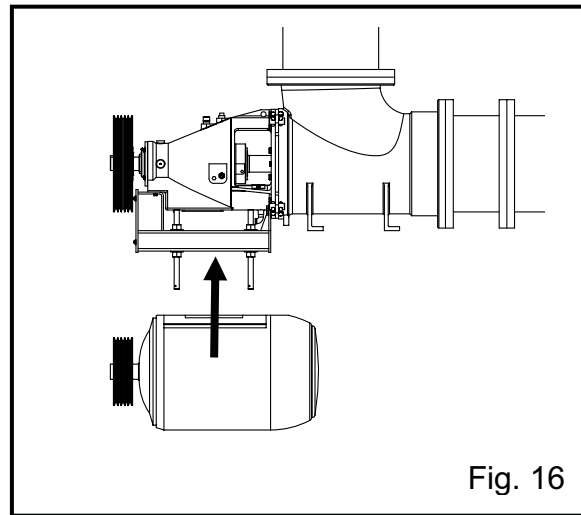

Fig. 16
5. With the underslung arrangement install the motor after the pump is connected to the piping. Be sure motor shaft is parallel to the pump shaft in the horizontal and vertical plane (see Fig.16).